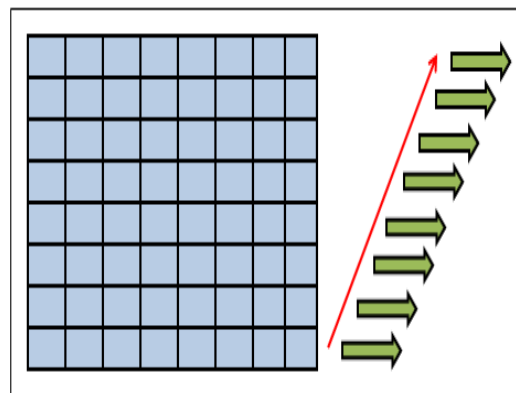

Figure 11-17 Bottom to top readout
- Bottom to top readout (Figure 11-17): The data is readout from the bottom to the top line.